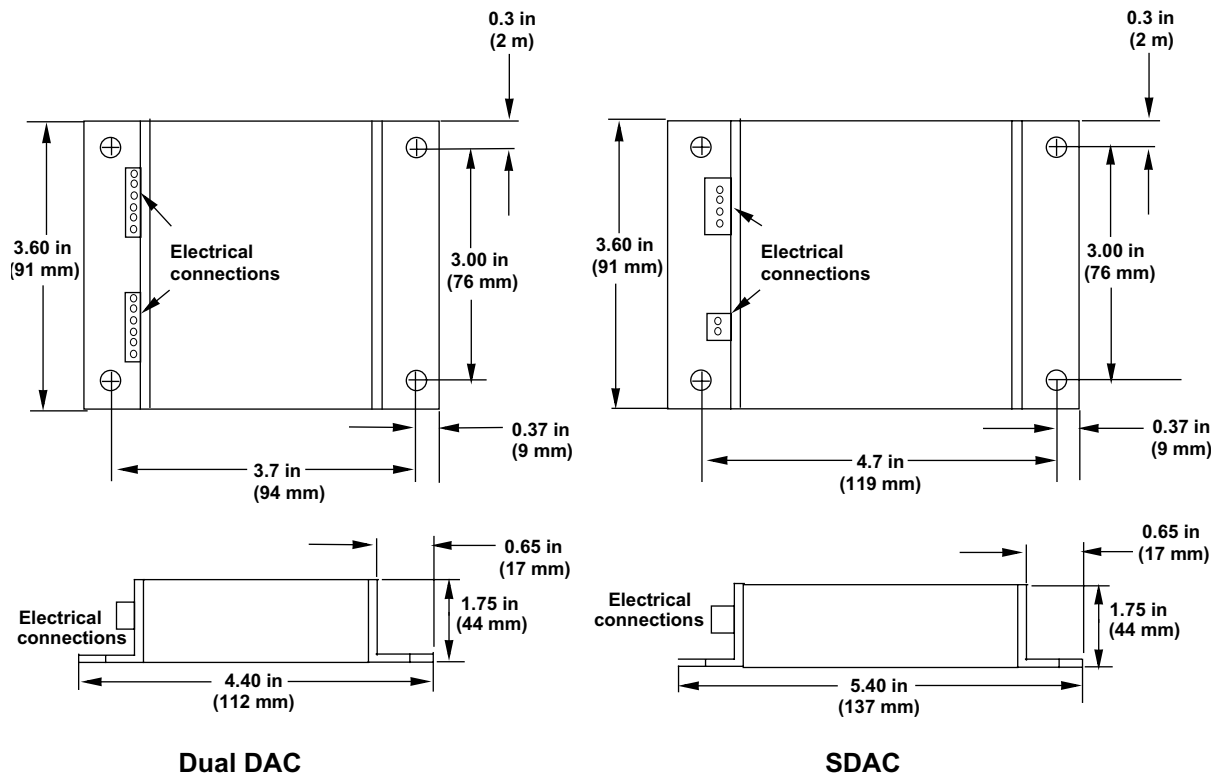

Figure 2.14 Dual DAC and SDAC Dimensions
2. Mark and drill four holes for screw mounting. Holes accommodate #6 size screws. Use the diagrams in *Figure 2.14 on page 32* for the correct locations.